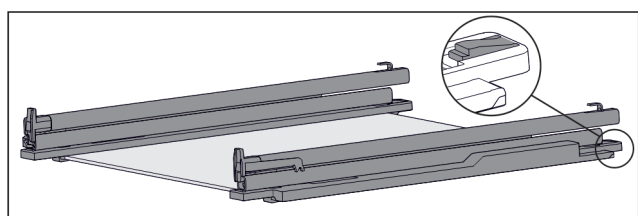

Fig. 100 Glass shelf with rails and retaining parts
- ▶ Press down retaining part at the rear (see Fig. 100) and at the same time push the rail back.